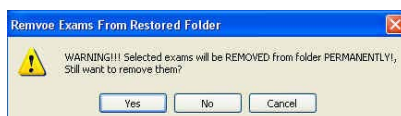

Figure 8.39 - Removing Exam from Restored Folder Warning
3. The Accutome B-Scan Plus will issue a warning shown in Figure 8.39 about deleting the file. Click on "Yes" if you would like to permanently delete the file. Click "No" or "Cancel" if you would like to terminate the delete process.